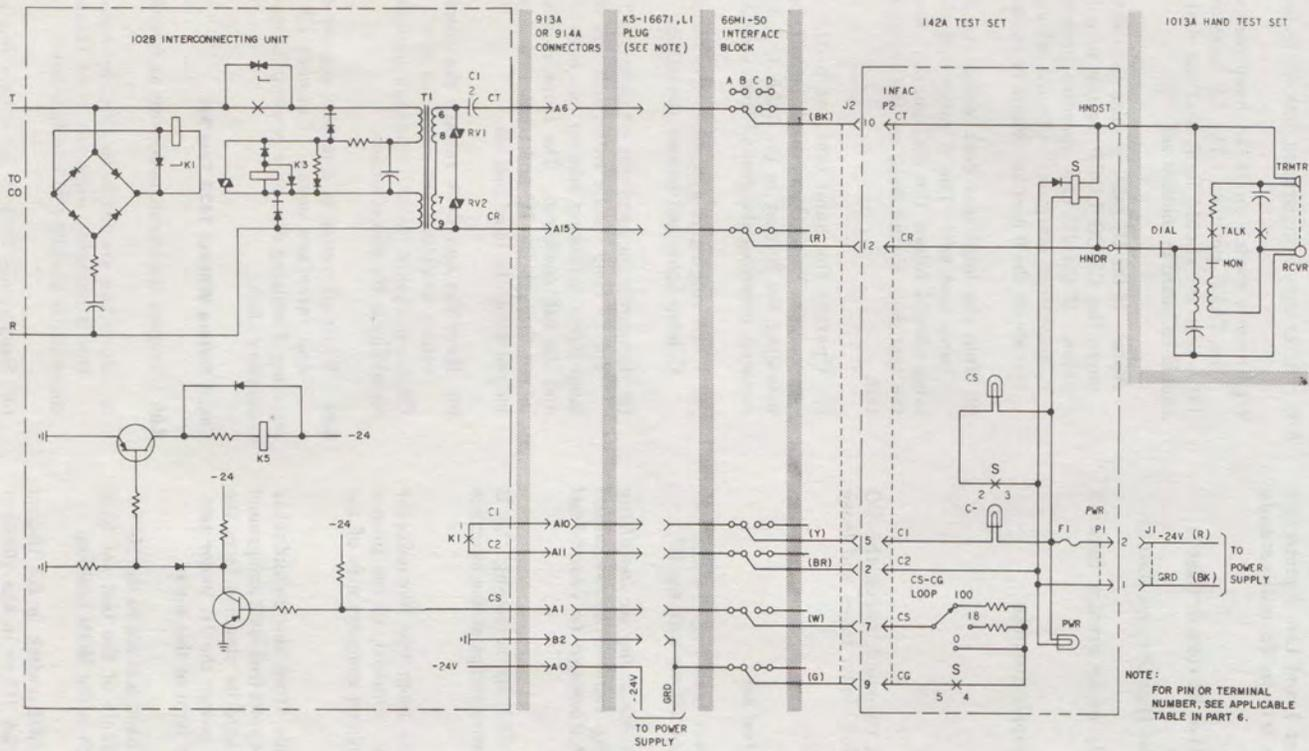

Fig. 14—Testing 102B Interconnecting Unit With 142A Test Set
5.02 The 142A test set (see Fig. 14 and 15) should be set up as follows with the IU: